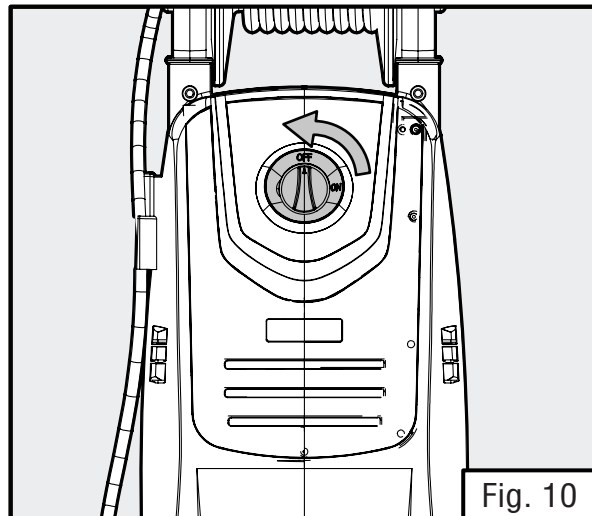

Fig. 10
1. Turn off the ON / OFF switch (Fig. 10) and unplug the power plug from the outlet.